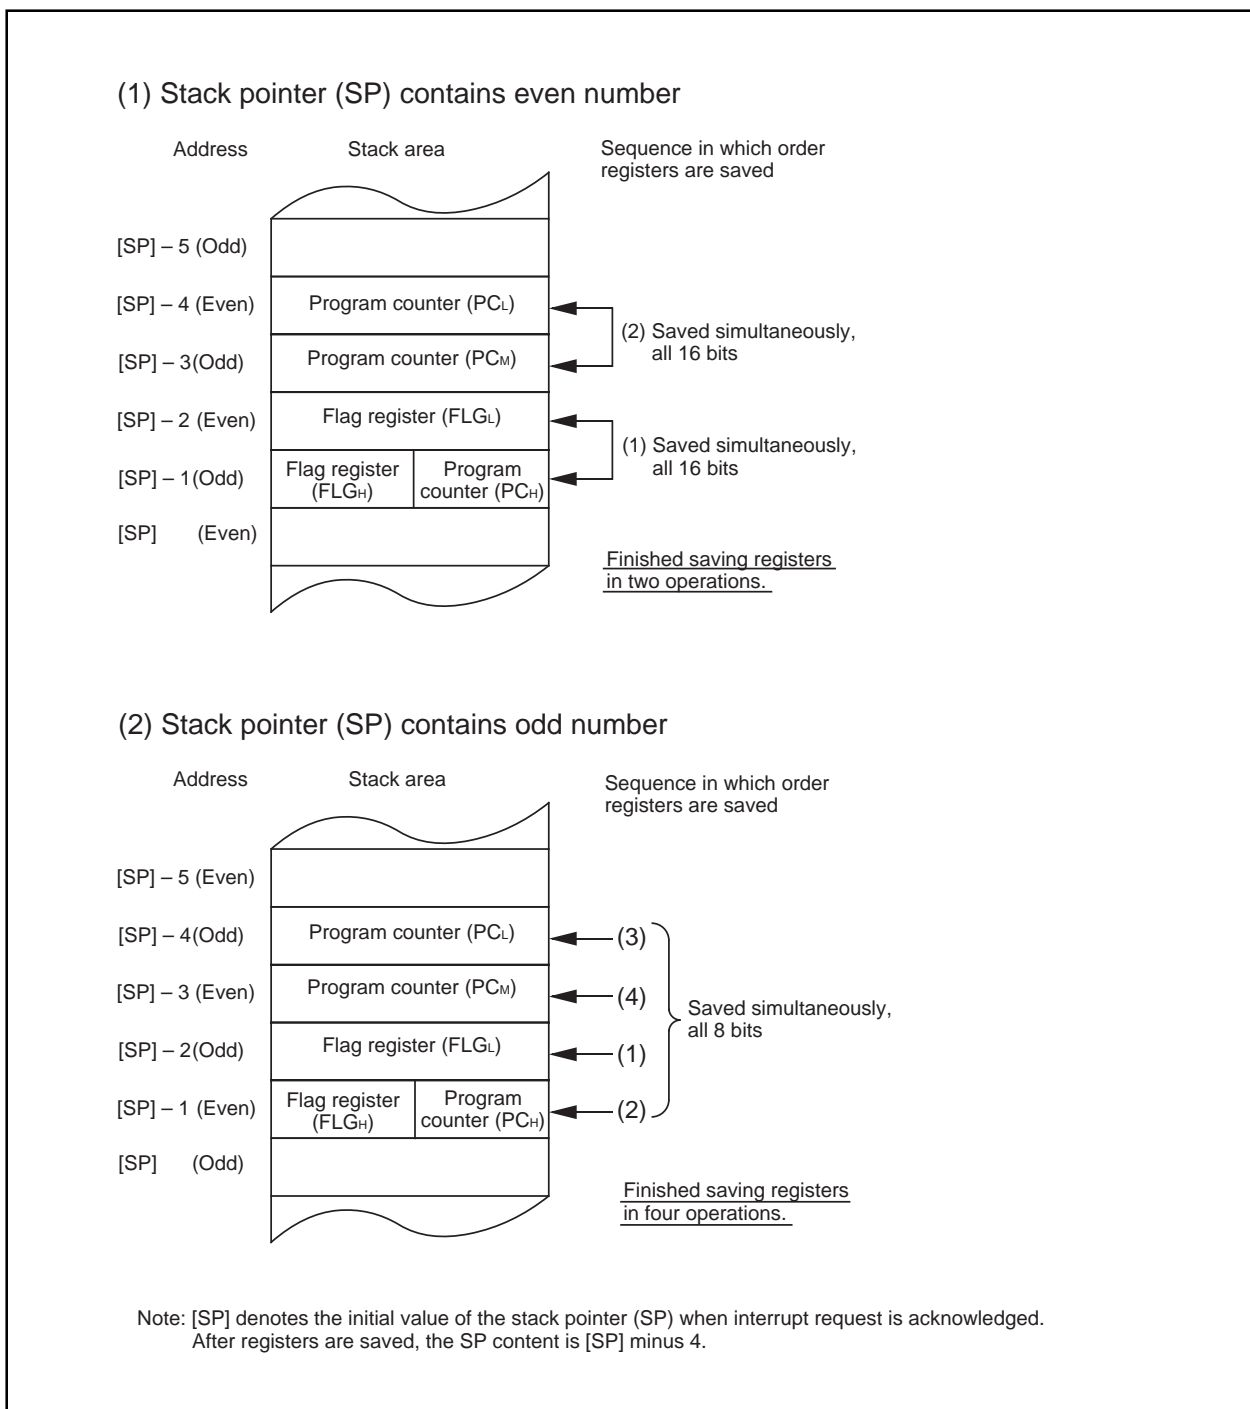

Figure 28. Operation of saving registers
The operation of saving registers carried out in the interrupt sequence is dependent on whether the content of the stack pointer (Note), at the time of acceptance of an interrupt request, is even or odd. If the content of the stack pointer (Note) is even, the content of the flag register (FLG) and the content of the program counter (PC) are saved, 16 bits at a time. If odd, their contents are saved in two steps, 8 bits at a time. Figure 28 shows the operation of the saving registers.